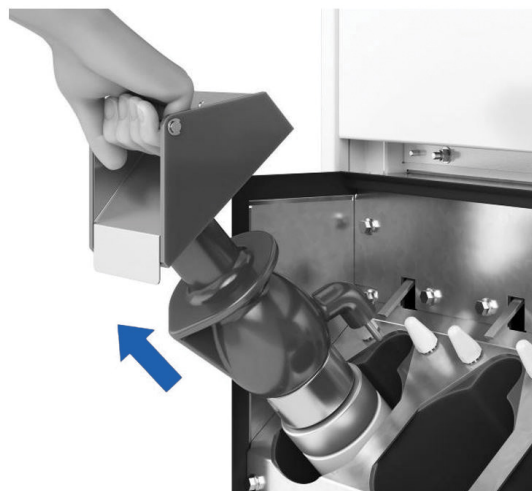

Figure 4-20: Remove the fuse
6. Remove the fuse with the handle. See figure 4-20.